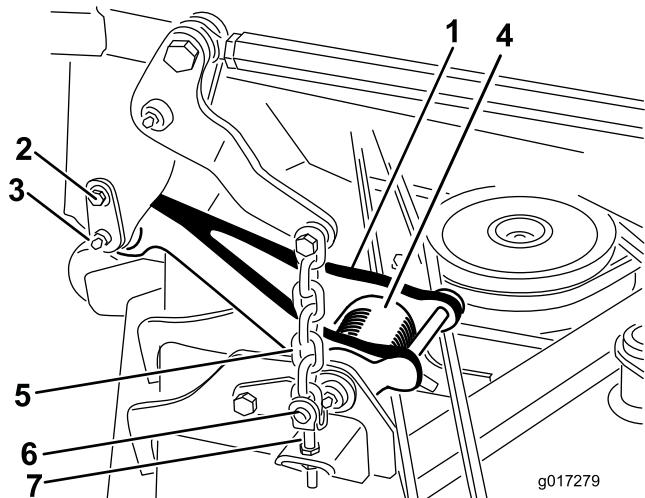

Figure 2
Note: When the mower is in the raised position, the pull link torsion spring tension (Figure 2) is reduced making it much easier to disconnect the pull links from the machine.
2. Disconnect the pull link from each side of the machine (Figure 2).
- A. Remove the shoulder screw that secures the retainer pin to the carrier frame (Figure 2).
- B. Carefully slide the retainer pin from the carrier frame and the pull link (Figure 2).
- Remove the (4) ring pins and clevis pins that secure the lift chains to the adjustment clevises on the mower (Figure 2).
- Install the (4) clevis pins and ring pins to secure the mower lift chains to the adjustment clevises on the mower (Figure 2).
- Align the pull link to the carrier frame and attach the link with the retainer pin (Figure 2). Secure the retainer pin to the frame with the shoulder screw (Figure 2).